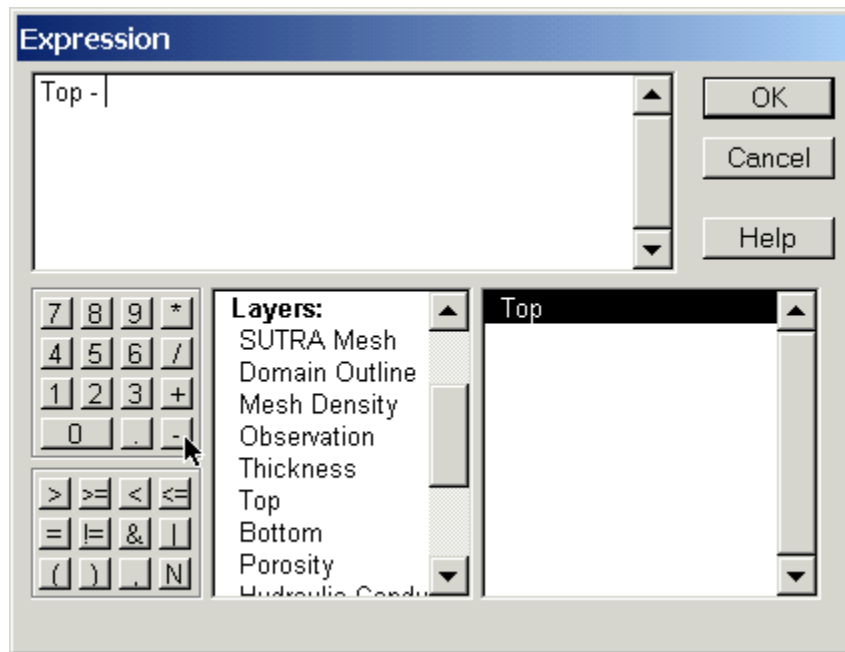

Figure 34. Constructing an Equation in the Expression Dialog, example
12. Insert a minus sign after “Top” (The reader is referred to figure 34).